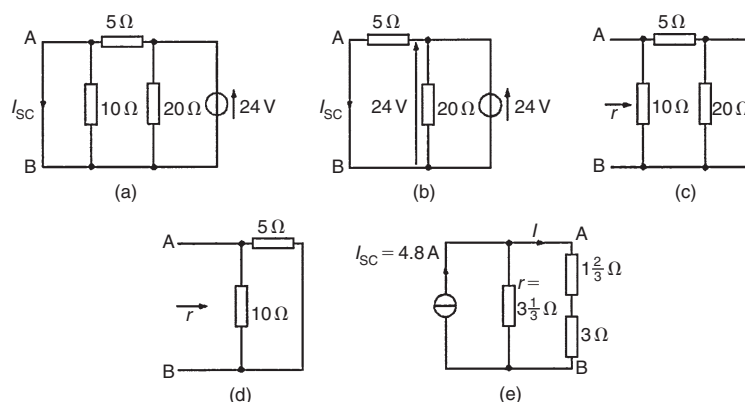

Figure 13.61
- (i) The branch containing the 3Ω resistance is short-circuited as shown in Fig. 13.61(a).
(ii) From the equivalent circuit shown in Fig. 13.61(b),
- (iii) If the 24 V source of e.m.f. is removed the resistance 'looking-in' at a break made between A and B is obtained from Fig. 13.61(c) and its equivalent circuit shown in Fig. 13.61(d) and is given by:
- (iv) From the Norton equivalent network shown in Fig. 13.61(e) the current in the 3Ω resistance is given by: